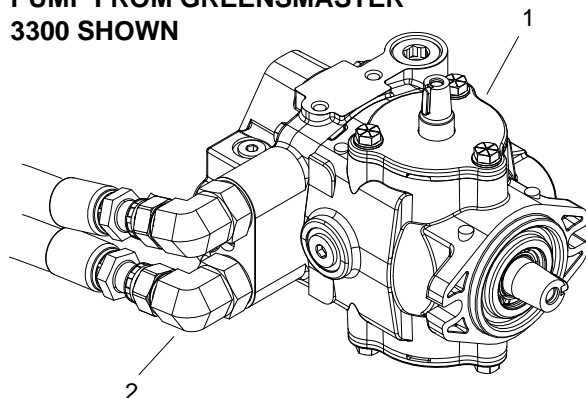

Figure 37
3. Thoroughly clean junction of hydraulic hose and **lower** fitting on side of piston pump (Fig. 37). Disconnect hose from lower pump fitting.